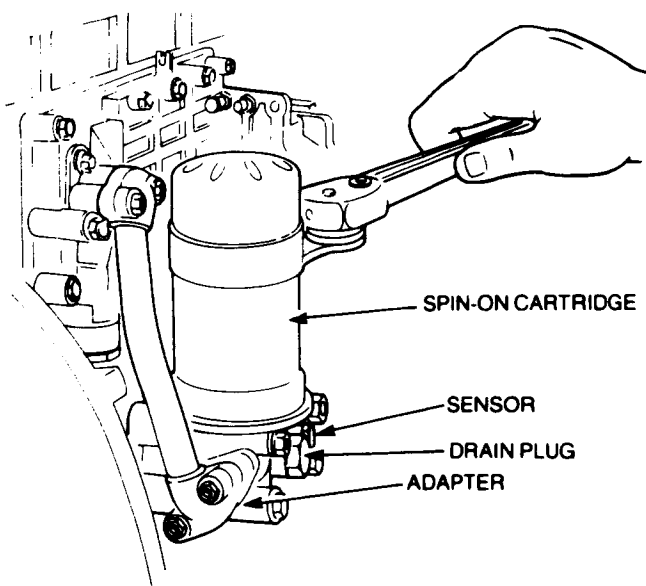

Figure 3-6 Oil filter removal
**323.** Unscrew the oil filter cartridge counter-clockwise, using a suitable oil filter removing tool if necessary (see Fig. 3-6). Apply a film of clean engine oil on the rubber seal of the new filter cartridge and install the filter. After the filter seal contacts the adapter, tighten the filter a further half a turn by hand only.